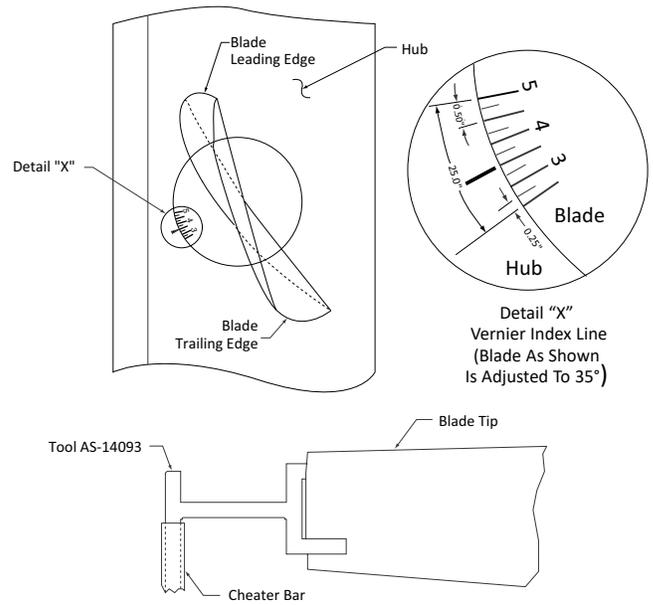

Figure 1.
5. Turn blade to desired angle. See Figure 1. There is an indicator mark on the hub. Align the Vernier index line on the blade with the indicator mark on the hub. The Vernier has the characters 3, 4 and 5 with gradation lines in between. (Note: Character 3 is 30°, 4 is 40°, 5 is 50°.) Each gradation is 2.5°. The blade is adjustable between 25° and 50°.